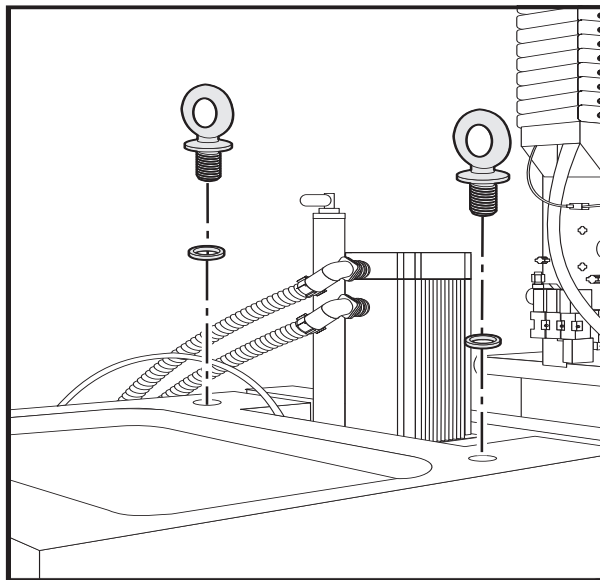

Fig. 1-4 VF-3/VF-4 eyebolt locations.
4. Install (2) 3/4-10 x 1 1/4" eyebolts and (2) 3/4" hard washers to the column casting as shown in figure 1-4. Tighten securely.